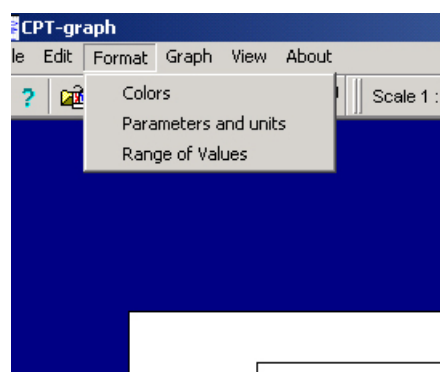

Fig. 4-8: Graph Menu
1. **Colors** and Curve styles can be edited under the Format Menu (Figs. 4-8 and 4-9). For curve styles, inactivate colours first and then activate “Use line style”.